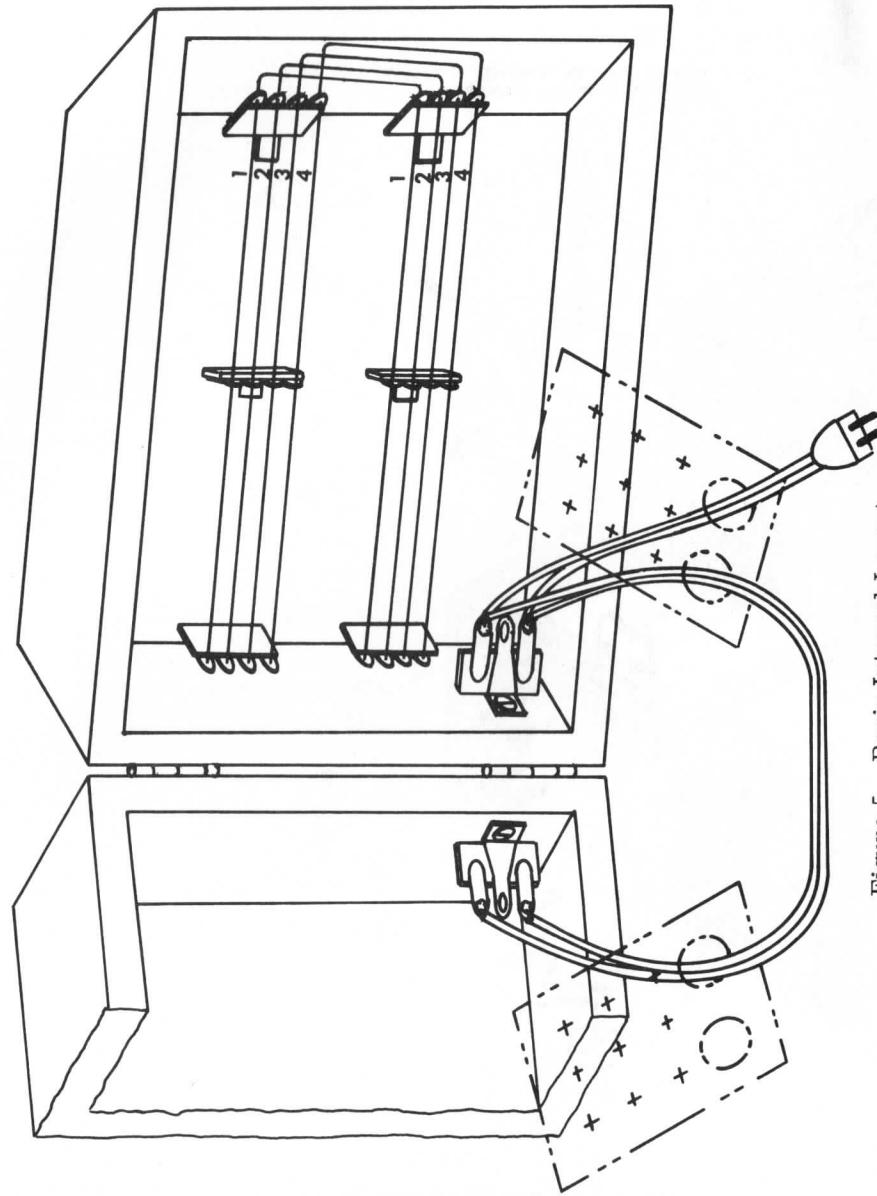

Figure 5 - Basic Internal Layout
During the following steps, refer to figure 5 for internal layout and wiring.
- ( ) Cut a 5" length of the insulated wire provided and prepare it by stripping 1/4" of insulation from each end. Connect one end of this wire to Lug #1 of the upper buss rod assembly at one end. (See figure 5.) Connect the remaining end of the wire to Lug #1 of the lower buss rod assembly. Solder both connections.
The dual section road style case uses two of the basic arrangements to form a unit which will fold in half and latch to itself to provide a portable, protective enclosure for the modules. In this configuration, the 4761 front panel in each module case needs to be mounted in the lower corners nearest to each other when the case is open. (See figure 5.) This will allow the easiest means of jumping power from case to case. Extra hardware will also need to be mounted if the case is to be closed, latched and carried.
- ( ) After determining the corner location of the 4761 front panel, mount the three-lug terminal strip on the case side nearest the panel location. (See figure 5.) Mount the terminal strip about half way between the front and rear of the module space, using a #4 X 3/8" screw.
( ) Arrange the two cabinets so they are facing each other with the case bottoms (the rubber feet are mounted on the bottom) facing the same direction. Locate the hinges on the case sides directly between the 4761 front panels when the case is opened. Mount the hinges about 1-1/2 inches in from the top and bottom of the cabinet using four #6 X 3/8" screws for each hinge. (See figure 5.)